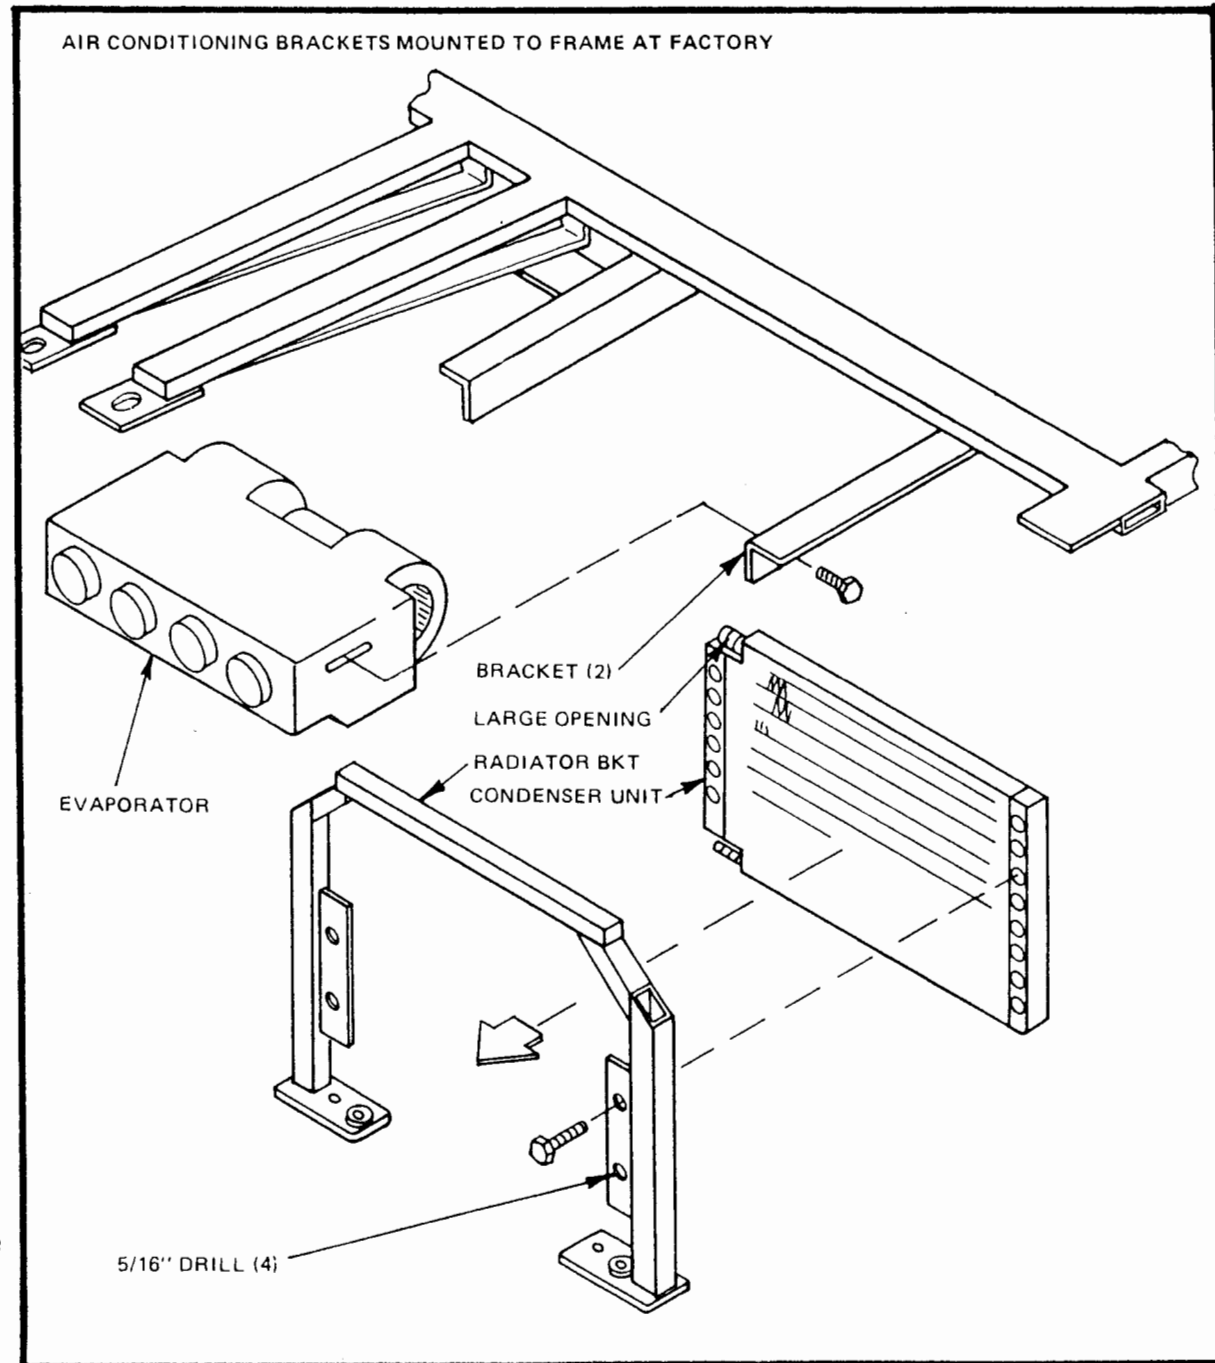

Figure 17
- The evaporator blower unit is attached to the frame under the dashboard. Mount the evaporator blower unit to the brackets located on the frame (Fig. 17) with the hardware provided with the air conditioner.
- Position it in the bracket and drill through any 4 of the pre-stamped holes and into the bracket (5/16" drill). Secure with 1/4 x 1 1/2" bolts with flat washer, lock washer and nuts. (Figure 17) Hook up hoses when radiator bracket is installed.